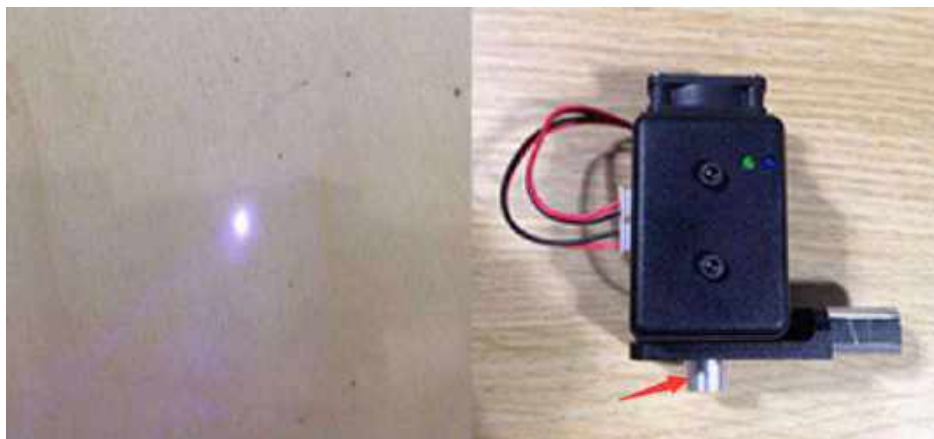

Figure 5.88 Adjust the focus
- If you cannot set the laser to be at its minimum focus, it's probably because the focal length is long. To shorten the focal length, slightly turn the sliver lens screw (as shown in Figure 5.88) on the bottom of the laser kit.